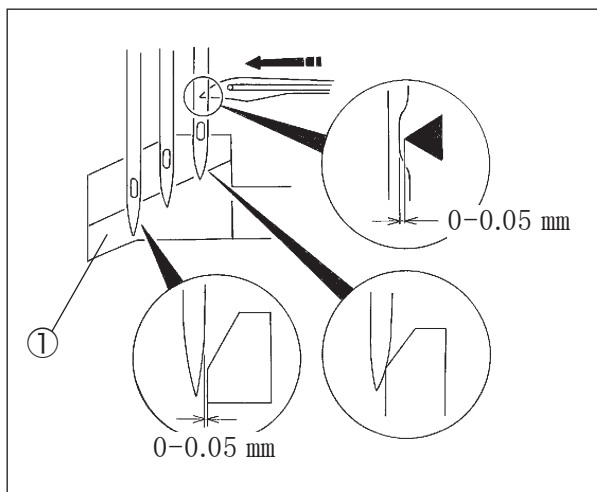

Fig. 6-26
- (2) When the looper tip meets the center of the right needle, push the right needle with the needle guard (rear) ① and adjust the clearance between the looper and the right needle to 0 to 0.05 mm. At the same time, adjust the clearance between the needle guard (rear) ① and the left needle to 0 to 0.05 mm. (Fig. 6-26)
- (3) Tighten the screws ④⑤ securely.